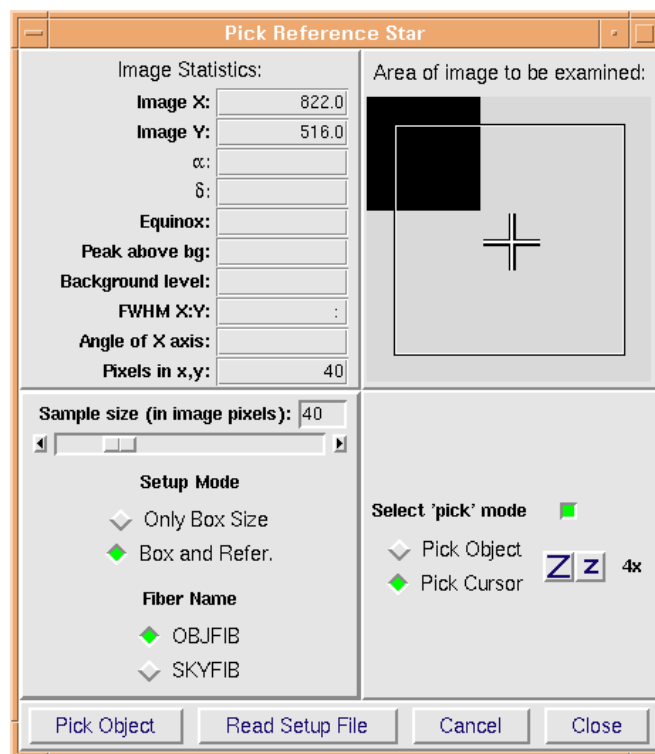

Figure 6.1: Window to set FEROS fibre reference position Pick reference star. Select checkbox Pick Cursor.
- i. Open or activate window Pick reference star (Fig. 6.1).